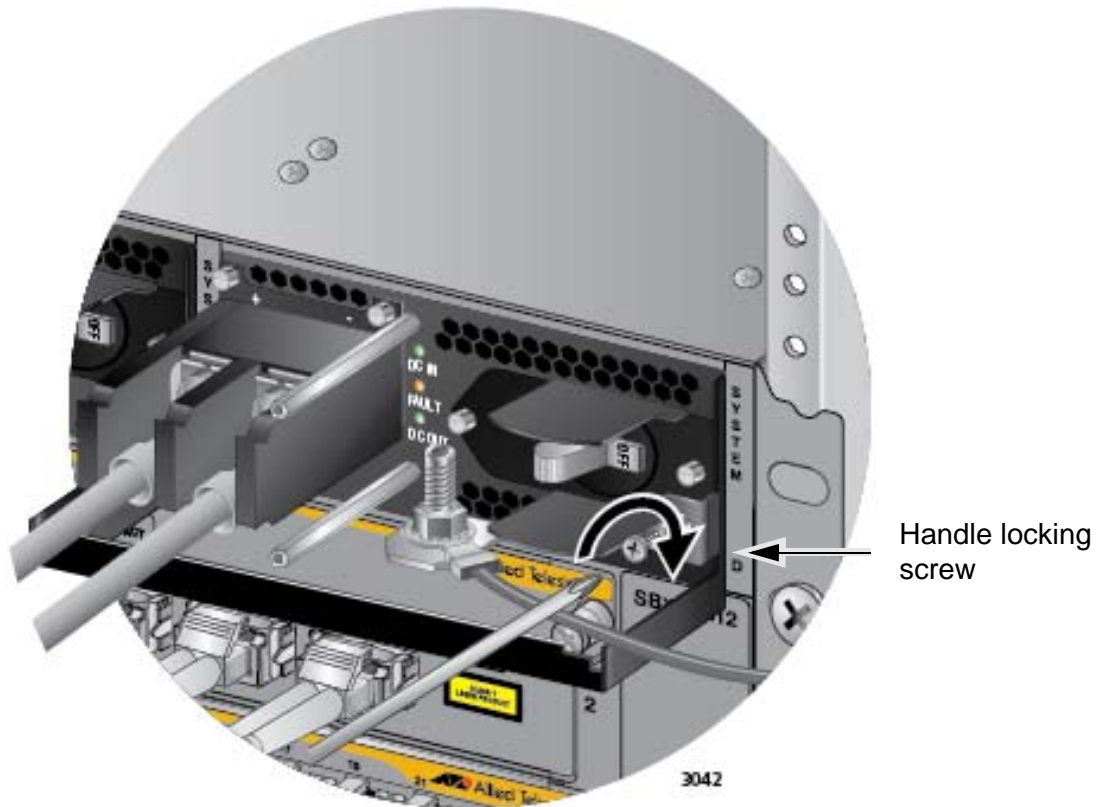

Figure 135. Tightening the Handle Locking Screw
8. With a #2 Phillips-head screwdriver, tighten the handle locking screw to secure the power supply to the chassis. See Figure 135 on page 201.